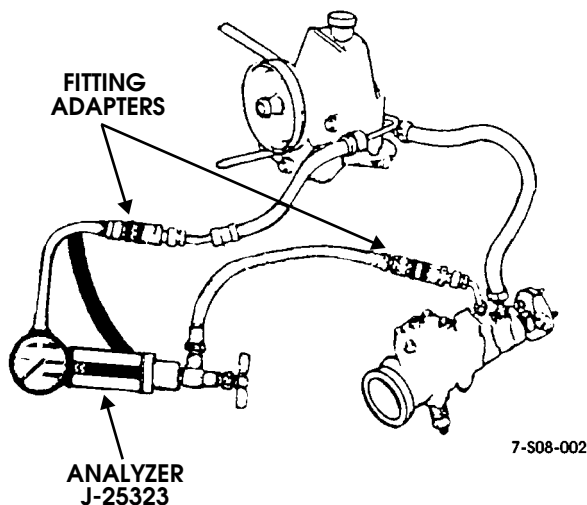

Figure 8-29: Analyzer Pressure Test Connections
Power steering system performance can be checked with analyzer set J-25323 and hose fitting adapters J-33141. The analyzer checks flow in gallons per minute (gpm) and min/max pressure in psi. Analyzer hose connection is shown in Figure 8-29. Procedure is as follows.
3. Connect J-25323 analyzer hoses to pump and gear (Figure 8-29). Use fitting adapters J-33141 to connect hoses to gear and pump as needed.